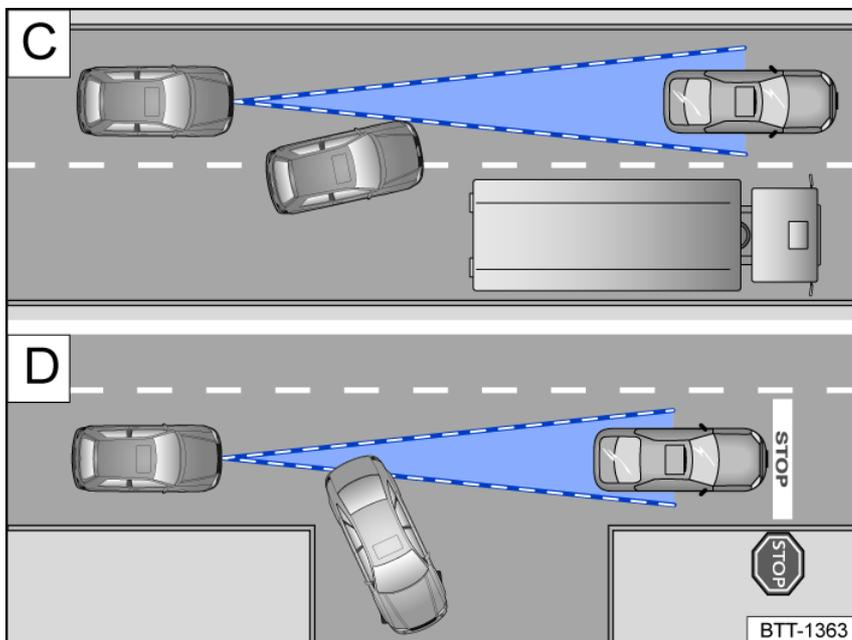

Fig. 130 C Changing lanes. D Turning and stationary vehicles.
For example, if a vehicle detected by ACC turns or changes lanes and there is a stationary vehicle in front of that vehicle, ACC will not react to the stationary vehicle fig. 130 D.
- If vehicles change to your lane close in front of your vehicle fig. 130 C.